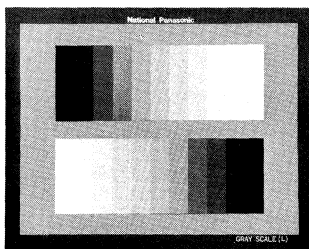

Fig. 1-1
- Logarithmic gray scale chart (Part No. YWV2310RB99) (Fig. 1-1).